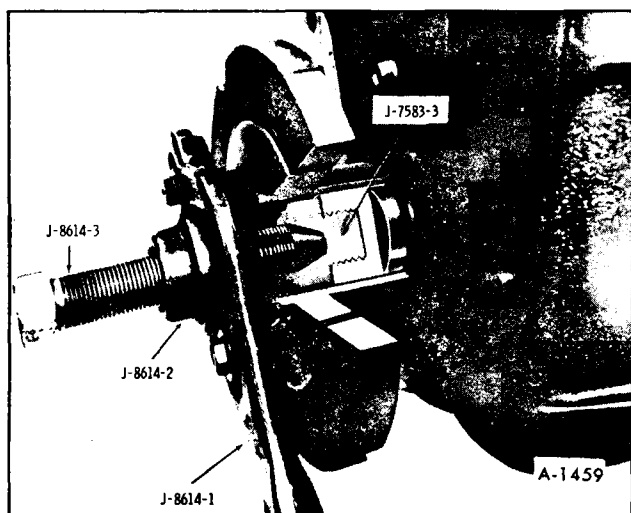

Figure 47—Removing Harmonic Balancer
6. Remove four (4) crankshaft pulley bolts and remove pulley.
8. Using balancer puller, remove balancer as shown in Figure 47.